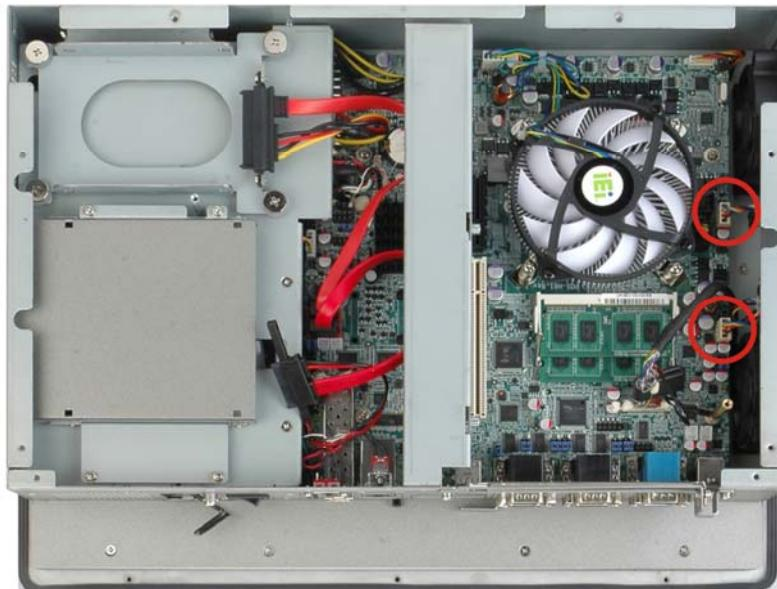

Figure 4-10: System Cooling Fans Motherboard Connector
Step 2: Disconnect the system cooling fans from the motherboard (Figure 4-10).